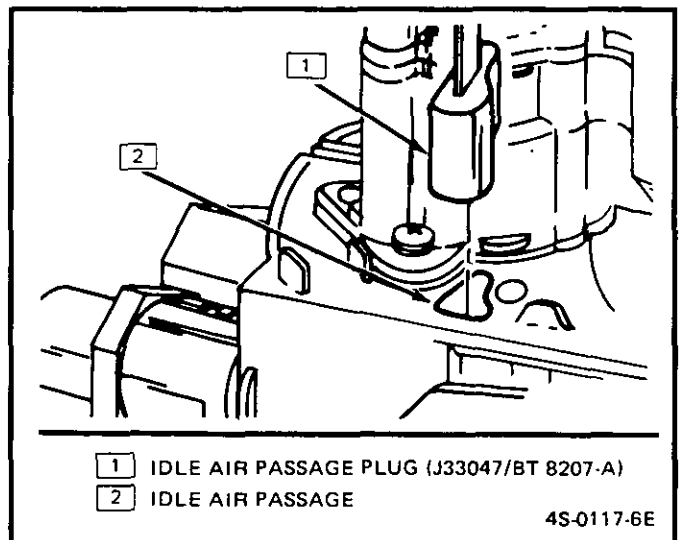

Figure C2-12 - Installing Tool J-33047
6. Install tool J-33047 in idle air passage of throttle body. Be certain that tool seats fully in passage and no air leaks exist (see Figure C2-12).